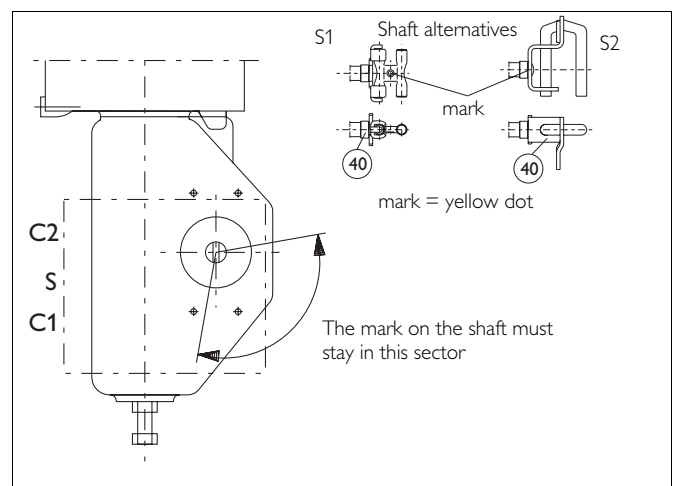

Fig. 4. Mounting on Metso Automation actuator with VDI/VDE mounting face
Shaft alternatives for the controller for Metso Automation rotary actuators are shown in Fig. 4.
- ☐ Set the direction arrow in the direction of the valve closure member and attach the draught piece (2) to the indicator cover in the position shown in Fig. 4. Secure the screw of the draught piece e.g. with Loctite and tighten it sufficiently.
- ☐ Attach the bracket (1) to the ND800PA.
- ☐ Attach the bracket (1) to the actuator. The shaft (40) of the ND800PA must fit into the draught piece (2) shown in Fig. 4. See also drawings in Section 10.2.